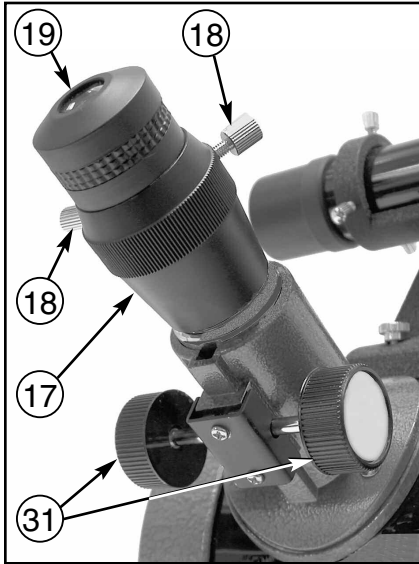
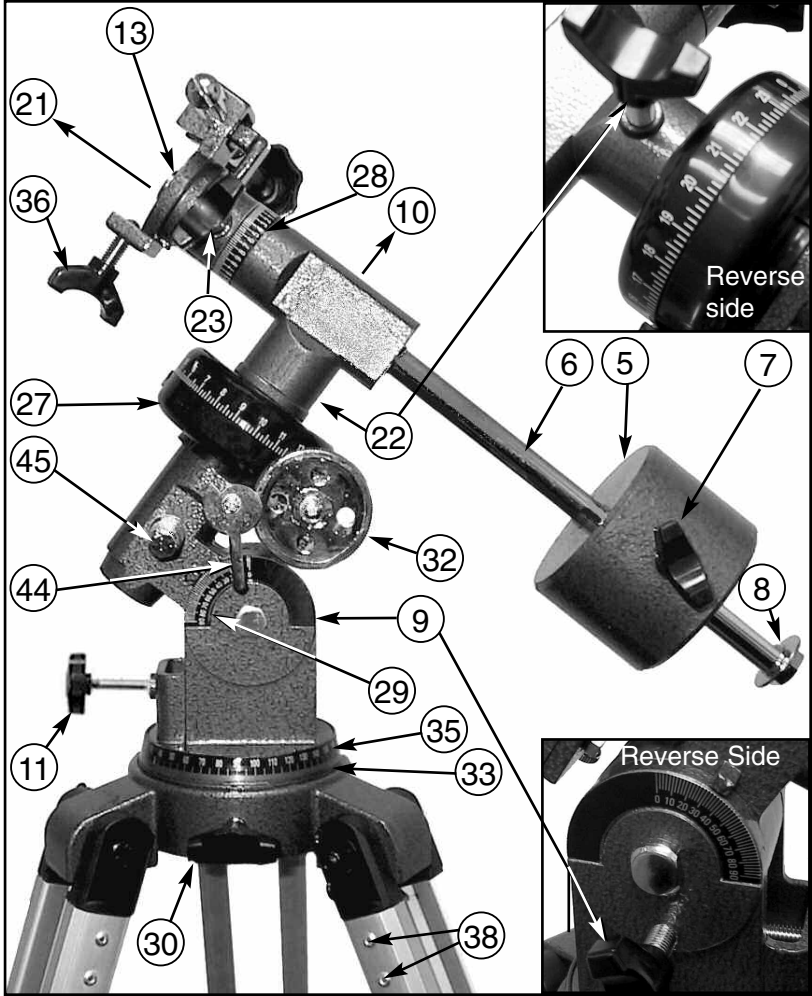
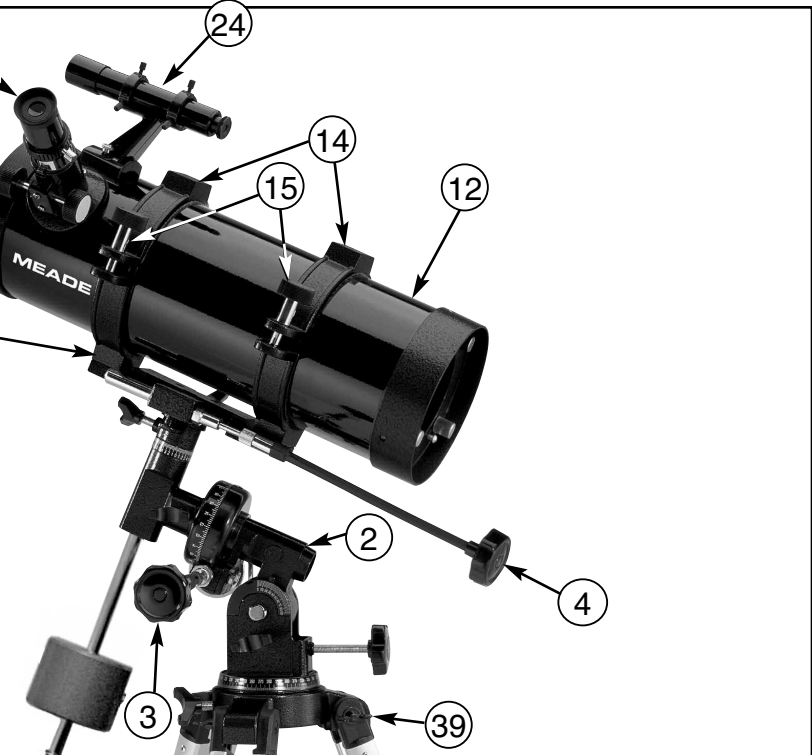
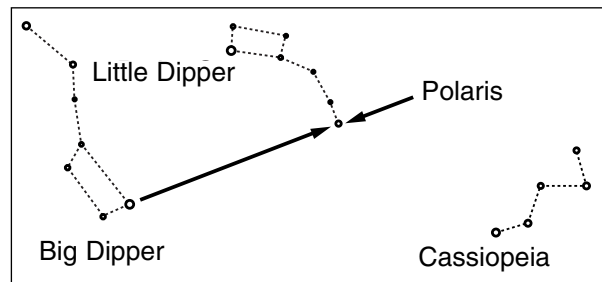

Fig. 1b: Model 114 EQ-ASB: Focuser.
Fig. 1c: Model 114 EQ-ASB: Equatorial mount.
Fig. 1e: Model 114 EQ-ASB: Optical tube assembly.
Fig. 3: Locating Polaris.
In order for the telescope to move smoothly on its mechanical axes, it must first be balanced about the 2 telescope axes: the polar axis (**10, Fig. 1c**) and the Declination axis (**21, Fig. 1c**). All motions of the polar aligned telescope (more on this later) take place by moving about these two axes, separately or simultaneously. To obtain a fine balance of the telescope, follow the method below:
- Loosen the R.A. lock (**22, Fig. 1c**) and rotate the telescope so that the counterweight shaft (**6, Fig. 1c**) is parallel to the ground (horizontal).
- Slide the counterweight along the counterweight shaft until the telescope remains in one position without tending to drift down in either direction. Then tighten the counterweight lock knob (**7, Fig. 1c**), locking the counterweight in position.
- Lock the R.A. lock (**22, Fig. 1c**), and unlock the Declination lock (**23, Fig. 1c**). The telescope will now turn freely about the Declination axis. Loosen the cradle ring lock knobs (**15, Fig. 1e**) so that the main tube in the cradle rings slides easily up-or-down in the cradle rings. Move the main tube in the cradle rings until it is balanced rotationally about the Declination axis. Re-lock the knobs (**15, Fig. 1e**).
- Remove the telescope front dust cover (**25, Fig. 1e**), and the dust covers of the viewfinder.
- Unlock the R.A. lock (**22, Fig. 1c**) and the Dec. lock (**23, Fig. 1c**) so that the telescope turns freely on both axes. Then point the main telescope at some well-defined land object (e.g. the top of a telephone pole) at least 200 yards distant, and re-lock the R.A and Dec. axes. Turn the flexible cable controls, (**3, Fig. 1e**) and (**4, Fig. 1e**), to center the object in the telescopic field.
The celestial map also contains two poles and an equator just like a map of the Earth. The poles of this coordinate system are defined as those two points where the Earth's North and South poles (*i.e.*, the Earth's axis), if extended to infinity, would cross the celestial sphere. Thus, the North Celestial Pole (see **Fig. 3**) is that point in the sky where an extension of the North Pole intersects the celestial sphere. The North Star, Polaris, is located very near the North Celestial Pole. The celestial equator is a projection of the Earth's equator onto the celestial sphere.
With all celestial objects therefore capable of being specified in position by their celestial coordinates of Right Ascension and Declination, the task of finding objects (in particular, faint objects) in the telescope is vastly simplified. The setting circles, R.A (27, Fig. 1c) and Dec. (28, Fig. 1c) of the Polaris 114 EQ-ASB telescope may be dialed, in effect, to read the object coordinates and the object found without resorting to visual location techniques. However, these setting circles may be used to advantage only if the telescope is first properly aligned with the North Celestial Pole.
1. Release the Azimuth lock (30, Fig. 1c) of the Azimuth base (33, Fig. 1c), so that the entire telescope-with-mounting may be rotated in a horizontal direction. Rotate the telescope until the polar axis (10, Fig. 1c) points due North. Locate Polaris, the North Star (see Fig. 3), as an accurate reference for due North.
3. Determine the latitude of your observing location by checking a road map or atlas. Release the latitude lock (9, Fig. 1c) and tilt the telescope mount with the latitude adjustment knob (11, Fig. 1) so that the pointer indicates the correct latitude of your viewing location on the latitude scale (29, Fig. 1c). Re-tighten the latitude lock (9, Fig. 1c).
4. Without moving the telescope on the Right Ascension and Declination axes, loosen the azimuth and latitude locks (9 and 30, Fig. 1c) and adjust the telescope until Polaris is centered in the telescope eyepiece. If steps 1 - 3 above were performed with reasonable accuracy, your telescope is now sufficiently well-aligned to the North Celestial Pole for visual observations.
- To center an object in the main telescope, loosen the telescope's R.A. lock (**22, Fig. 1c**) and Dec. lock (**23, Fig. 1c**). The telescope can now turn freely on its axes. Use the aligned viewfinder to first sight-in on the object you wish to observe; with the object centered on the viewfinder's crosshairs, re-tighten the R.A. and Dec. locks.
- Once centered, the object can be focused by turning one of the knobs of the focusing mechanism (**31, Fig. 1b**). You will notice that the astronomical object in the field of view will begin to slowly move across the eyepiece field. This motion is caused by the rotation of the Earth on its axis, as described in Section C, although the planets and stars, are, for practical purposes, fixed in their positions in the sky. The platform on which the telescope is sitting (the Earth) rotates once every 24 hours under these objects. **To keep astronomical objects centered in the field of the polar aligned telescope, simply turn the R.A. flexible cable control (3, Fig. 1e).** These objects will appear to move through the field more rapidly at higher powers. Note that the Declination flexible cable control (**4, Fig. 1e**) is used only for centering purposes, and not for tracking.
- Manually turn the R.A. setting circle (**27, Fig. 1c**) to read the R.A. of the object now in the telescope's eyepiece.
- The setting circles are now calibrated (the Dec. setting circle (**28, Fig. 1c**) is factory calibrated). To locate a nearby faint object using the setting circles determine the faint object's celestial coordinates from a star chart, and move the telescope in R.A. and Declination until the setting circles read the R.A. and Dec. of the object you are attempting to locate. If the above procedure has been carefully performed, the faint object will now be in the field of a low power eyepiece.